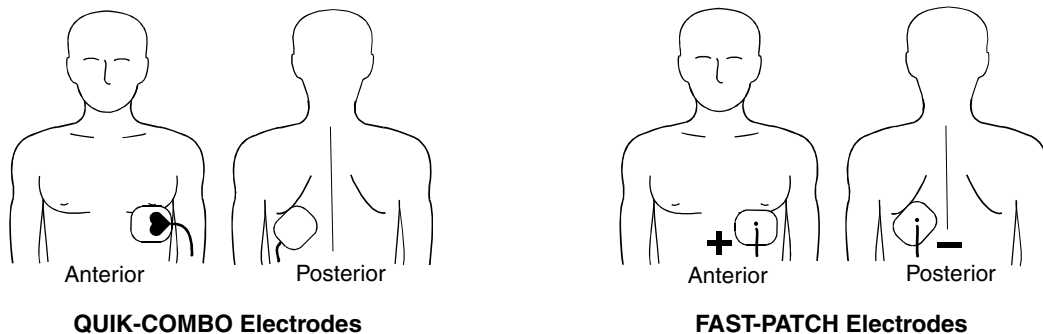

Figure 4-2 Anterior-posterior Placement for Defibrillation and Pacing
- 1 Place either the ♥ or + therapy electrode over the left precordium as shown in Figure 4-2. The upper edge of the electrode should be below the nipple. Avoid placement over the nipple, the diaphragm, or the bony prominence of the sternum if possible.
- 2 Place the other electrode behind the heart in the infrascapular area as shown in Figure 4-2. For patient comfort, place the cable connection away from the spine. Do not place the electrode over the bony prominences of the spine or scapula.